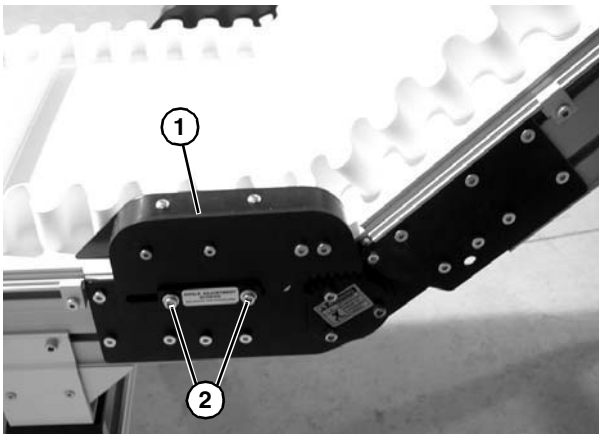
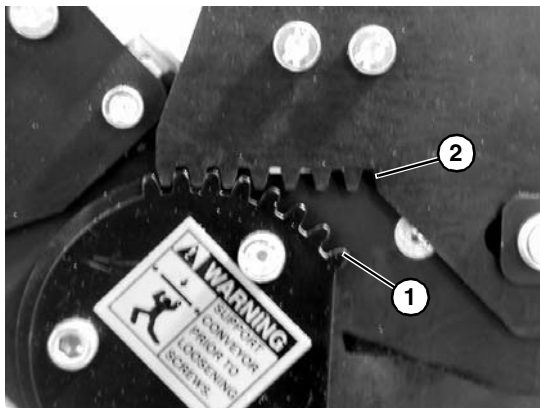

Figure 35
Figure 36
7. If equipped, install lower knuckle return roller assembly (**Figure 35, item 1**). To properly align teeth, ensure the first gear of the pinion plate (**Figure 36, item 1**) matches with the first pocket of the rack plate (**Figure 36, item 2**). Secure with screws (**Figure 35, item 2**) on both sides of the conveyor.